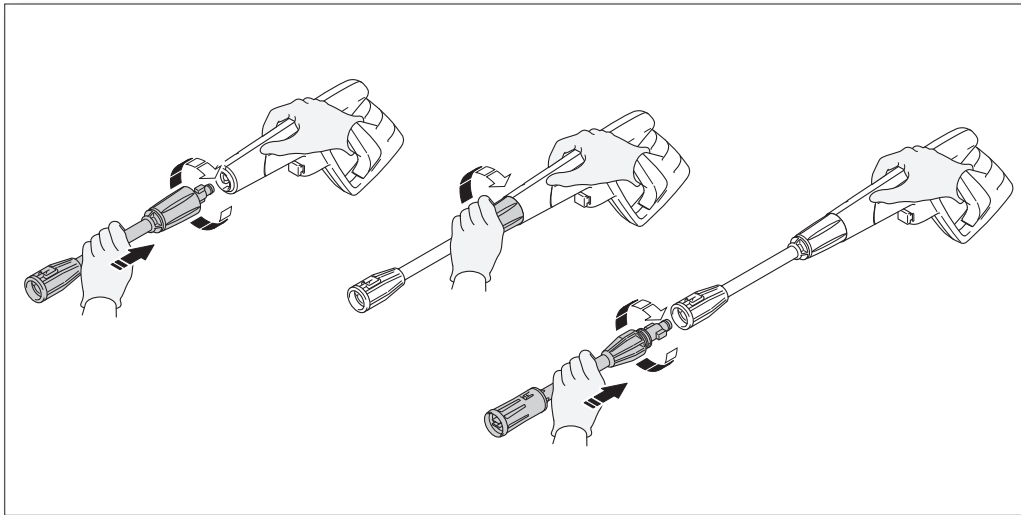

Fig. 8
- While the spray gun is in the locked position. Attach the extension lance directly to the spray gun, insert extension into the gun pushing together turning clockwise simultaneously, turn the extension collar clockwise to lock into place. To remove turn extension collar counter clockwise to unlock then push together and turn counter clockwise. The extension lance must be inserted in the gun first before using any of the other attachments, and to place in gun holder for storage. It is recommended that once extension is connected to leave it in place. (**Fig. 8**)